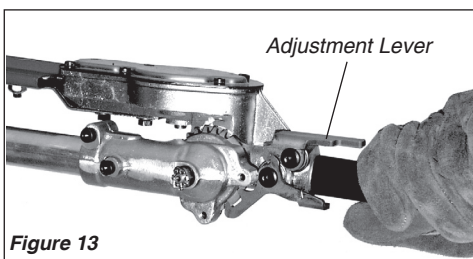

Figure 13
1. With your right hand, grasp the handle, located immediately behind the hand guard. With your left hand, grip the adjustment lever on the cutter assembly. See Figure 13.